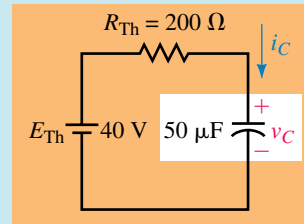

FIGURE 11–23 The Thévenin equivalent of Figure 11–21.
- For Figure 11–21, if $R_1 = 400 \Omega$, $R_2 = 1200 \Omega$, $R_3 = 300 \Omega$, $R_4 = 50 \Omega$, $C = 20 \mu\text{F}$, and $E = 200$ V, determine v_C and i_C .
- Using the values shown in Figure 11–21, determine v_C and i_C if the capacitor has an initial voltage of 60 V.